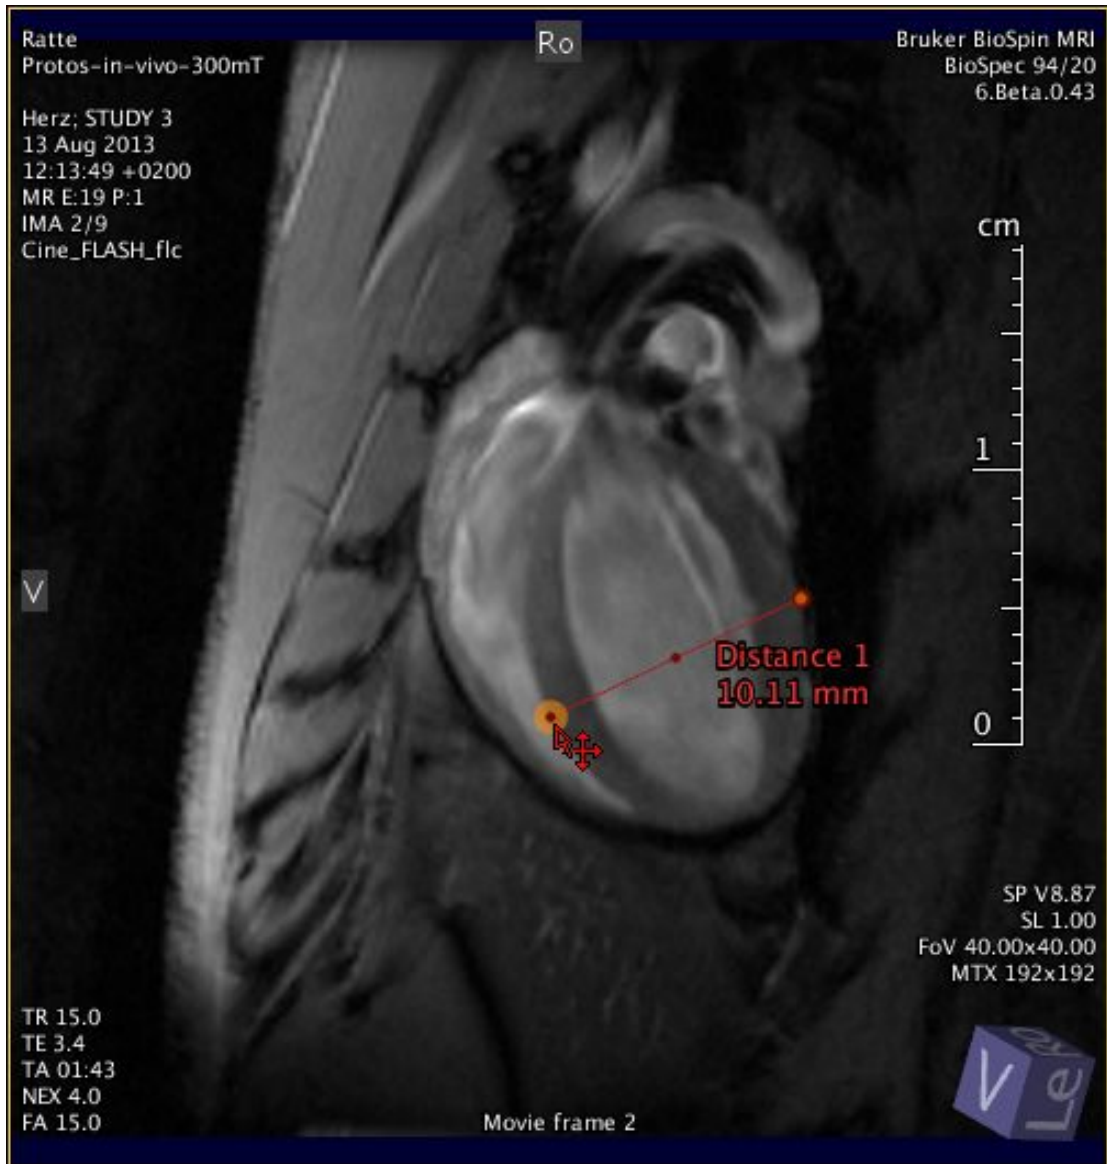

Figure 1.139: Distance Measurement
- ⇒ To place the ends of the line, point the mouse to a marker at the end, and drag it to the desired position with the mouse (see [Figure 1.139 \[p 160\]](#)).